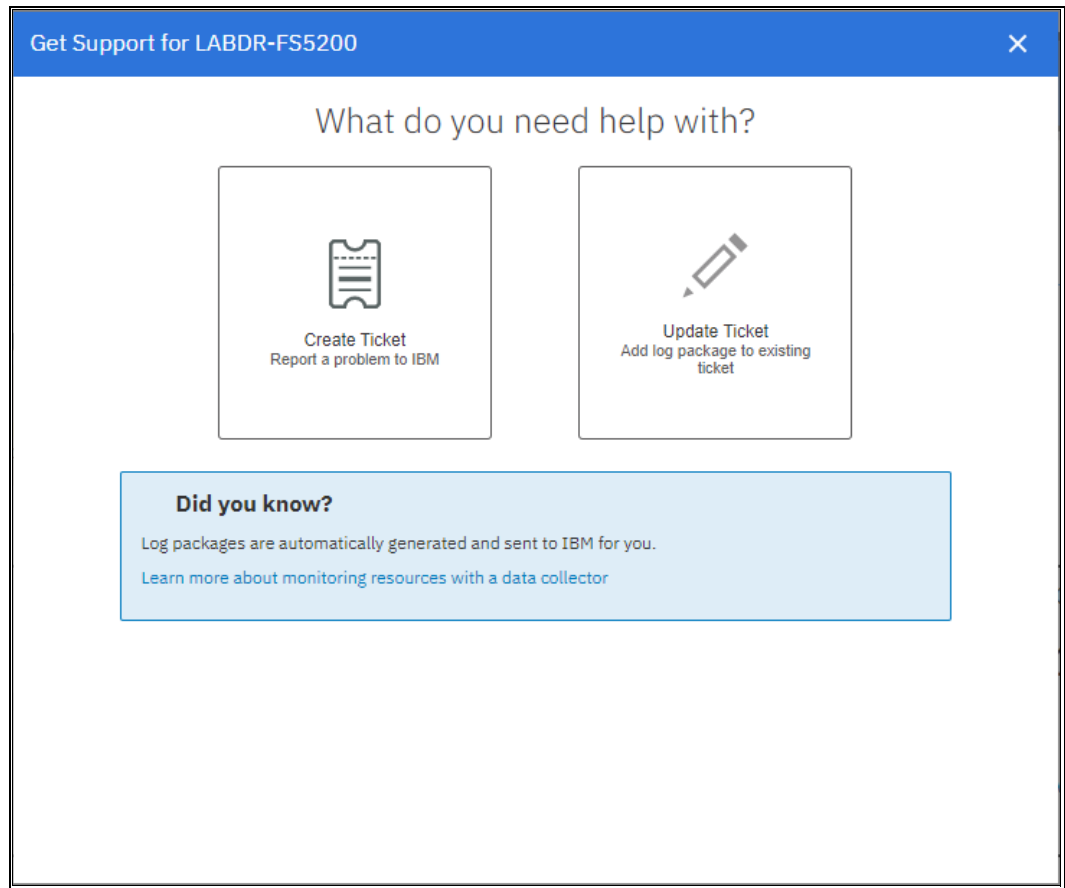

Figure 11-16 Create Ticket option
2. Select **Create Ticket** (see Figure 11-16). Several windows open in which you enter information about the machine, a problem description, and the option to upload logs.